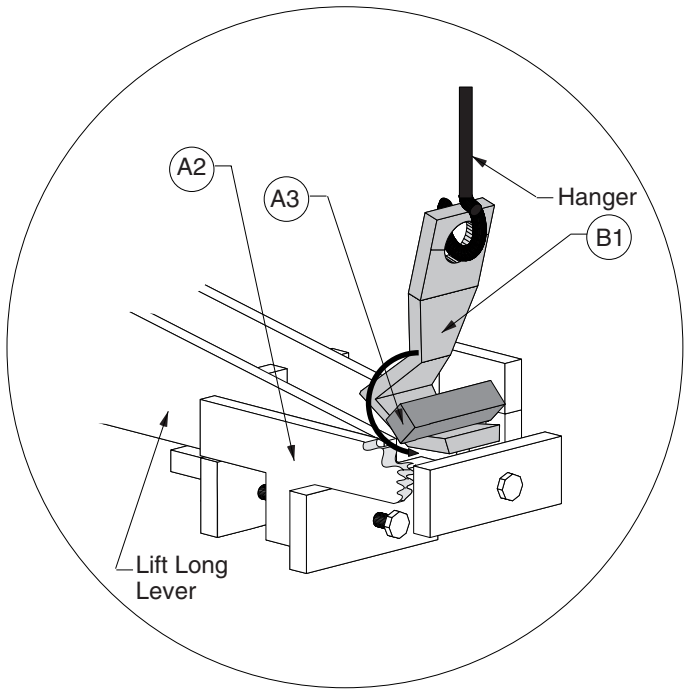
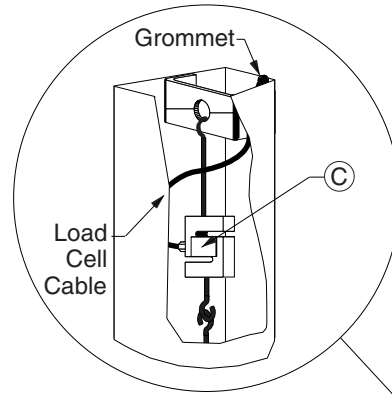

Figure No. 2
Figure No. 3
5. Hook end of shock absorber and draft rod assembly to one end of the load cell assembly (C). See figure no. 3. Note: Handle load cell assembly with care! Do not drop, bend or twist.
8. Fasten the top hook bolt of the load cell assembly (C) to the column (B). (Note: Load cell assembly should not touch sides of column.)
9. If available, place the scale on a table or workbench, otherwise place the scale on floor. In either case, **DO NOT** tilt or place scale on it's side. Next, push bottom of hanger (B1) back towards scale weighbridge (A), lift long lever and nose iron (A2) up then slide hanger (B1) under nose iron pivot (A3). See figure no. 2. After hanger is attached, tighten 4 (1/4-20) screws. See figure no. 1 for column (B) mounting.